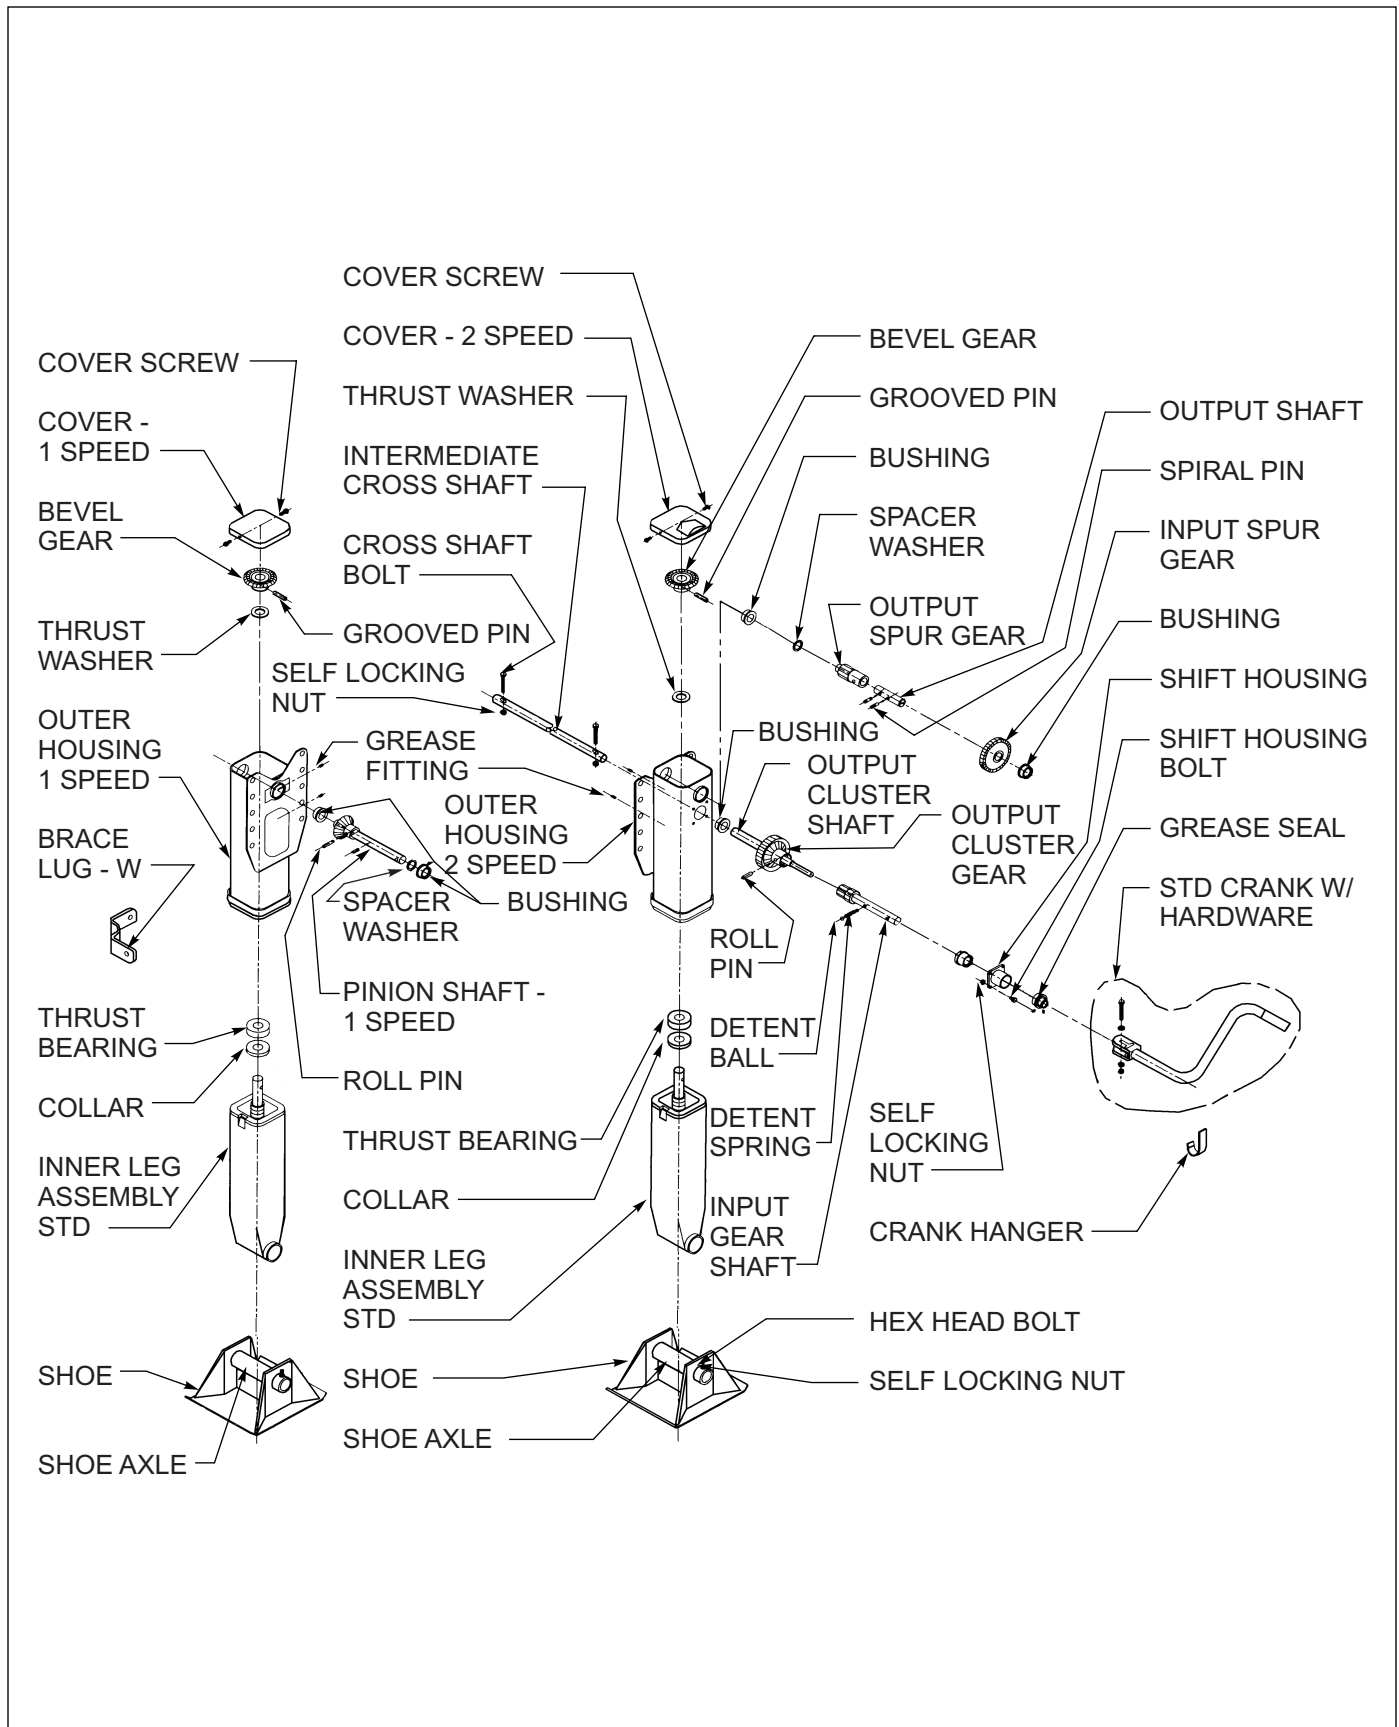

Figure 4-22: Crank Landing Gear Assembly
2. The elevating screw is lubricated by the lower grease fitting located on the upper housing in **Figure 4-22**.